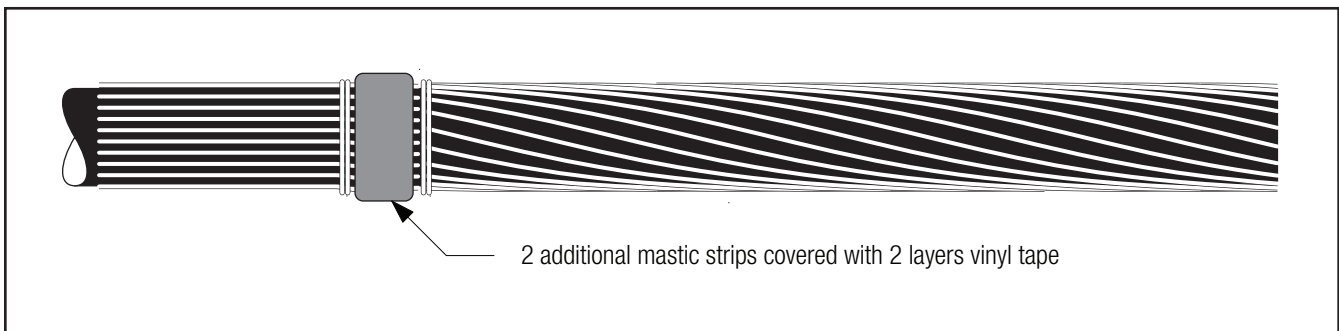

Figure 8
2.3.4 Wrap two additional strips of mastic over the first one and cover with two half lapped layers of vinyl tape (*Figure 8*).